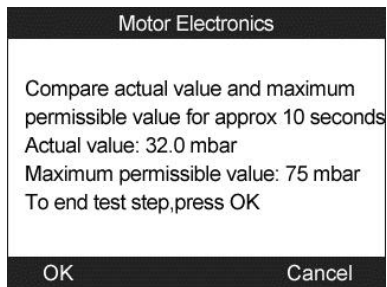

Figure 13.42
- d) Check the exhaust backpressure with engine running at 2000 rpm. The tool will read off the actual backpressure value and compare with the upper limit. (Figure 13.42). Select **OK** to continue the test or **Cancel** to return to previous menu.